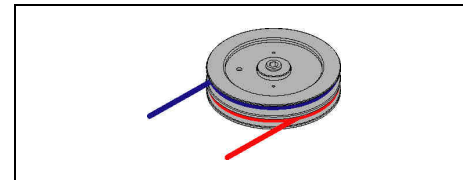

Fig. 06
The Self Tensioning Drum is a drum with an inside calibrated torsion spring to provide the necessary pull for the sheet tension - Figure 06.
- for clockwise rotation: the bottom throat of the drum must be used to pull the sheet (red sheet - Fig 06);
- for clockwise rotation: the upper throat of the drum should only be used for the sheet tensioning, and not to pull it (blue sheet - Fig 06);